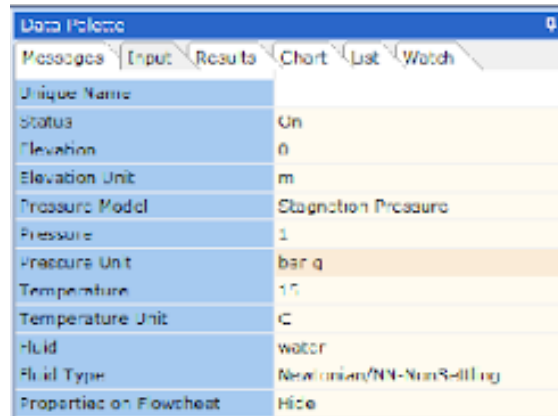

Figure 14: Input Inspector at Node 2.
12. Let us now check the input values in node 2 (Figure 14).